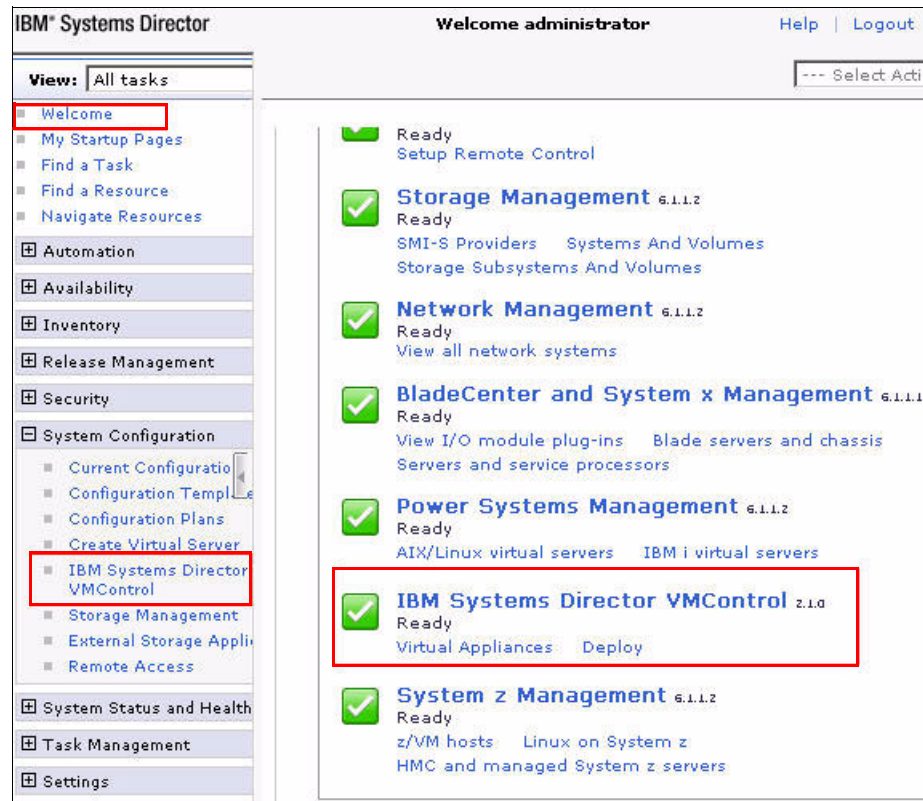

Figure 3-76 Starting the VMControl plug-in
8. In the left navigation pane, click **System Configuration** → **IBM System Director VMControl**, as shown in Figure 3-76. In the main part of the window, click **IBM Systems Director VMControl** to start the VMControl plug-in.